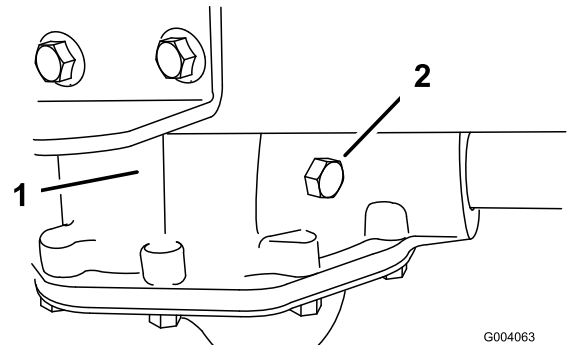

Figure 34
2. Remove the check bolt on the transaxle (Figure 34).